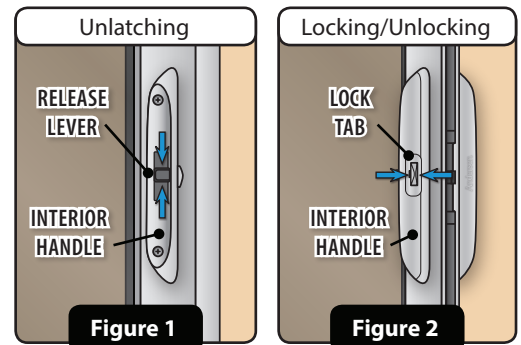

Figure 1
- a3** Insert edge of the **Sill Adapter** into the **Adapter Channel** located on the **Screen Track** (see **Figure 1**).
- b2 With a Hacksaw make a clean square cut through the Screen Track at the Cut Mark. With a metal file, file down all sharp edges. Repeat steps for the other Screen Track (side D) (see Figure 1).
Use the **Handle** to extend insect screen to the other side of door frame. It will automatically latch when fully extended. Slide the **Release Lever** up or down to unlatch, the insect screen will automatically retract (see Figure 1).